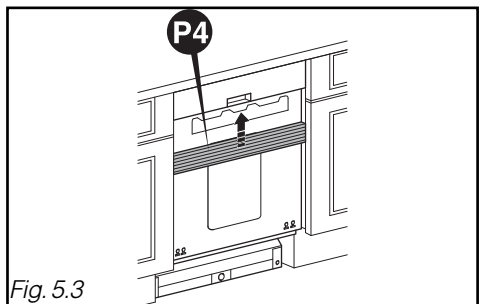

Fig. 5.3
- Clip the assembled spacers **P4** onto the appliance's control panel (Fig. 5.3).